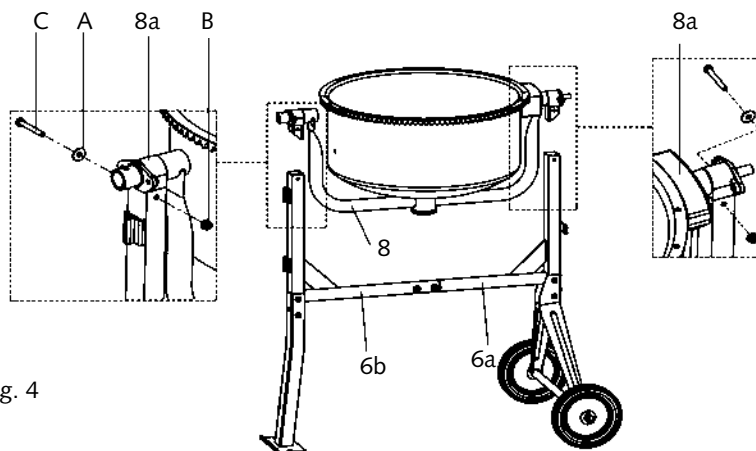

Fig. 4
1. Insert the brackets (8a) into the poles and place the drum arm (8) onto the stand (6).
2. Secure the connection with bolts (C), washers (A) and nuts (B) (Fig. 4).